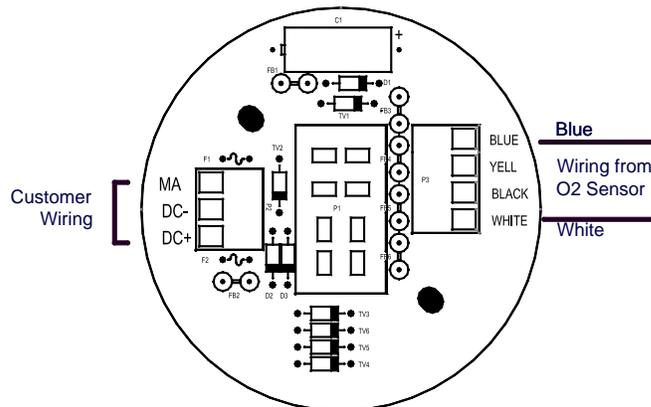

Figure 8 Sensor Connector PCB
- c) Observing correct polarity, terminate 3-conductor field wiring to the sensor base connector board in accordance with the detail shown in Figure 8.